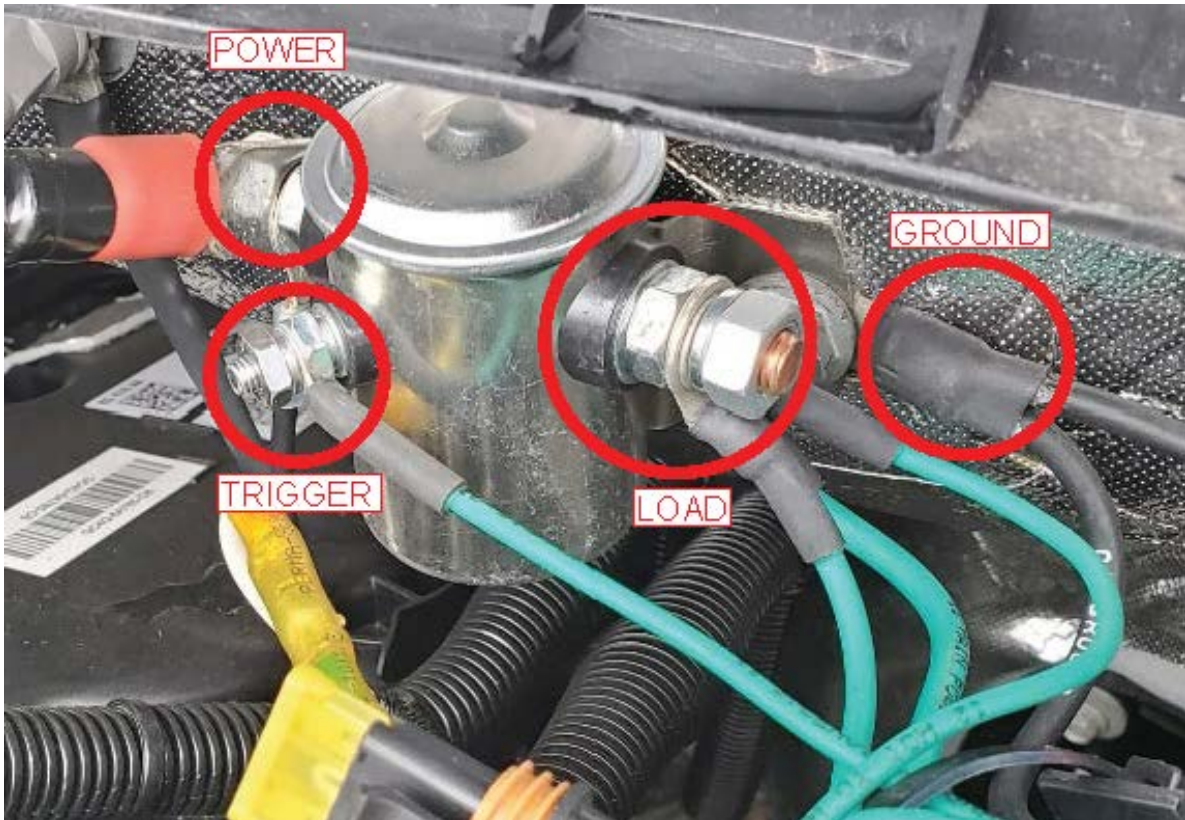

Figure 1.
2. Disconnect the POWER, TRIGGER, and LOAD wires from the 3-post solenoid shown in Figure 1 below.
DO NOT reinstall the ground wires to the mounting bolt as shown in the Figure 1. The new solenoid has a dedicated ground post.